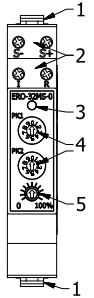
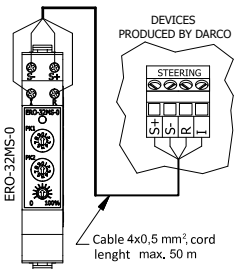
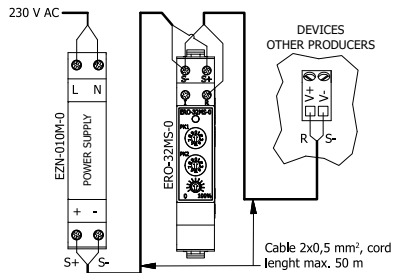

Figure 1. Regulator construction
Figure 2. Electrical wiring diagram for devices produced by DARCO.
Figure 3. Electrical wiring diagram for devices produced by other producers.
1. Hook one of the latches (fig.1 pos.1) onto a TS-35 rail.
2. Pull the other hook (fig.1 pos.1) away with flat screwdriver and then push the controller towards the TS-35 rail.
3. Release the hook (fig.1 pos.1).
Controller has 4-pin connector (fig.1 pos.2) to connect steered device cable. **Joint should be made with the usage of 4-wire cable (cord-type) of 4x0,5 mm² cross section.** Figure 2 show the way controller and steered devices can be connected.
ERO-32MN-1 and ERO-32MN-2 controllers have 4-pin connector (fig.1 pos.2) to connect power and steered device cable. **Joint should be made with the usage of 2-wire cable (cord-type) of 2x0,5 mm² cross section.** Figure 3 shows the way controller and power and steered devices can be connected.
Before switching the controller on, it is necessary to select the device to be steered. Selection is made with the usage of two PK1 and PK2 coding switches (fig.1 pos.4) that are to be set in accordance to the information in table No 1. Diode (fig.1 pos.3) is confirming the type of device chosen (in sequence: color green, red and yellow).
Speed adjustment or setting voltage of steered device is made manually, with the usage of a knob (fig.1 pos.5). Turning it all the way left makes the controller go in standby mode.
Table 4. **Signaling of incorrect values of PK1 and PK2 code switches (fig.1 pos.4):**